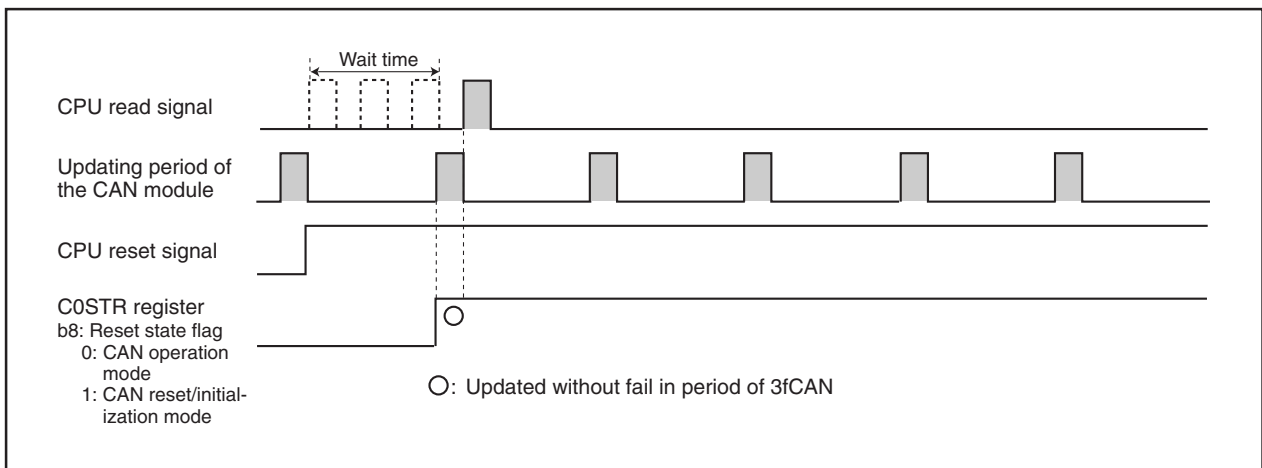

Figure 23.4 With a Wait Time of $3f_{CAN}$ Before CPU Read
- (a) There should be a wait time of $3f_{CAN}$ or longer (see **Table 23.1 CAN Module Status Updating Period**) before the CPU reads the C0STR register. (See **Figure 23.4 With a Wait Time of $3f_{CAN}$ Before CPU Read.**)